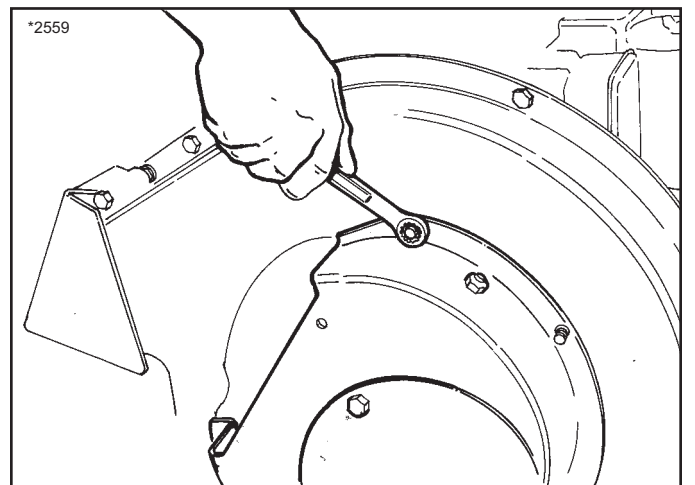

Figure 19. Removing Rotor Housing
3. Remove the rotor housing by unscrewing the 5/16-18 hex nuts that hold it to the fan housing. See Figure 19.
- Reassemble the hammer and related parts and hardware, observing the correct assembly sequence as shown in figures 19 and 20.